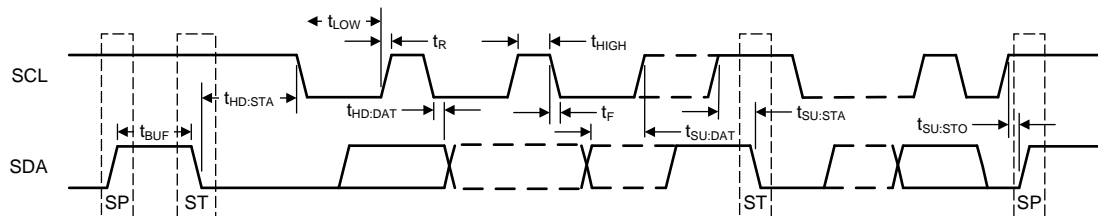

Figure 1. SMBus Timing Parameters
(1) These parameters support SMBus 2.0 specifications.
(2) These parameters are not production tested.
(3) See Figure 1 for timing diagrams.